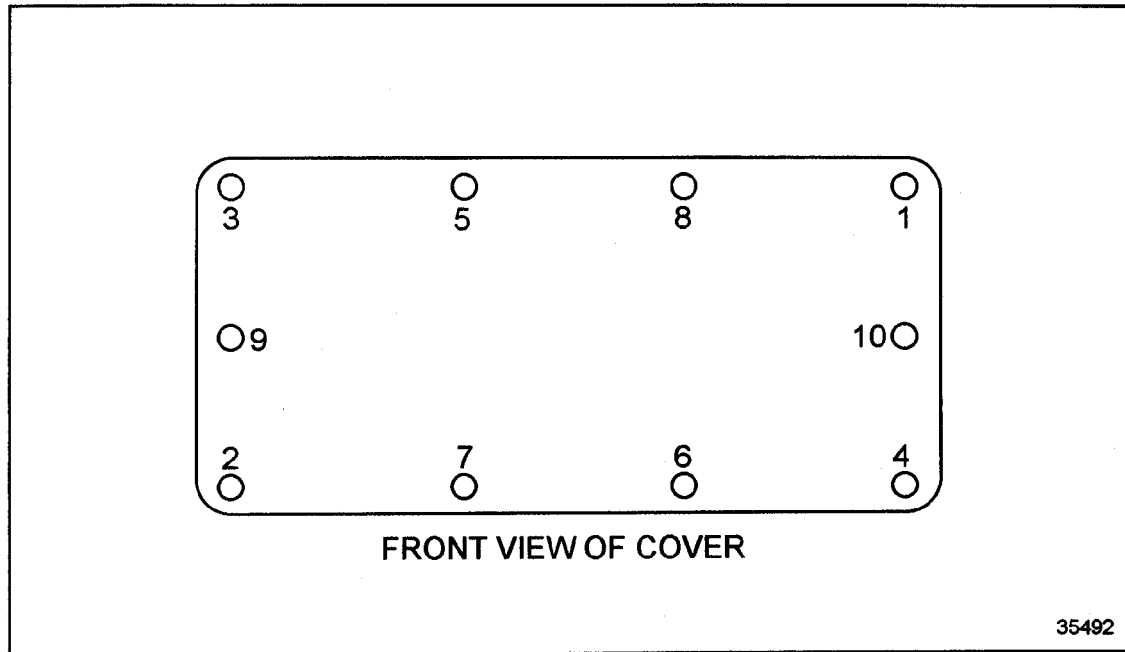

Figure 4-96 Heat Exchanger Bolt Hole Location
1. Install two M12 1.75 X 180 mm long bolts, each with two spacers, into the center right and center left holes in the heat exchanger tank/backplate (locations 9 and 10 see Figure 4-96). The spacers will properly align the plates during assembly.